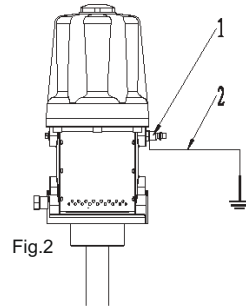

Fig.2
5.1.2.1 Pump: Refer to fig.2. Use a ground wire and clamp as shown in fig.2. Remove the ground screw 1, onto the pump and tighten securely. Connect the other end of the ground wire to a true earth ground. Insert through the eye of the ring terminal at end of the ground wire 2. Fasten the ground screw back.